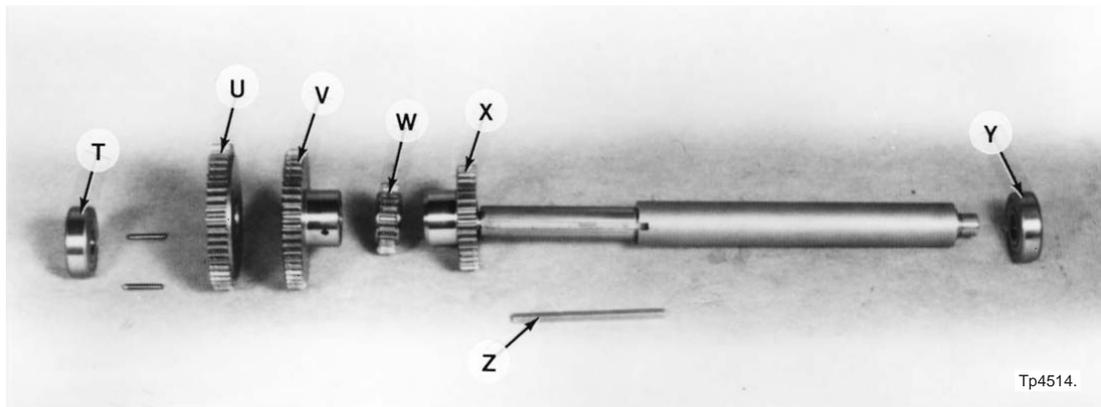

Figure 4.58 - Intermediate Shaft Assembly
Gears “U” and “V”, Figure 4.58, are pinned together. DO NOT separate gears “U” and “V”.
- a) Press gears “U” and “V”, Figure 4.58, and bearing “T” from the shaft.
- a) If removed, press bearing “Y”, Figure 4.58, onto the shaft.